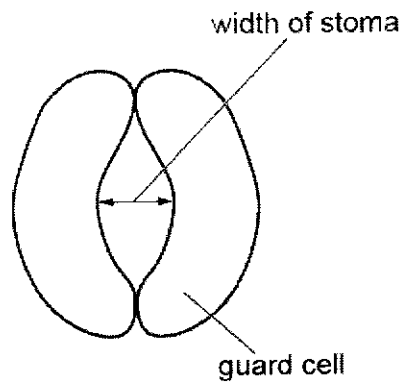

Fig. 3.3
- (b) A scientist investigated changes in the mean width of stomata in the leaves of a plant growing in hot, dry conditions. The scientist measured the widths of stomata at different times of day, from 02:00 hours to 22:00 hours. Fig. 3.3 shows where the scientist measured the width of each stoma.